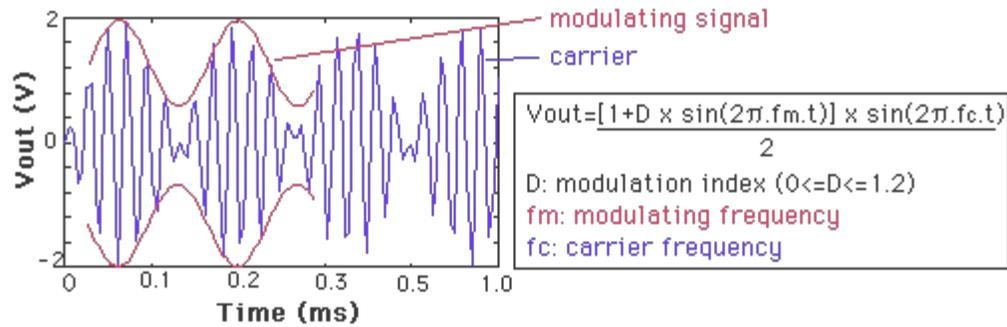

Figure 11: AM modulated sinusoid
The standard waveforms can be modified to create more complex ones which can be used in various applications. As an example, one can modulate the amplitude (AM) or frequency (FM) of the waveforms in Figure 11 for an AM modulated sinusoid. The carrier frequency amplitude is being modulated by the lower frequency - sinusoid, and is called modulating signal. The modulating signal could be any signal (For example: a speech signal or music, as the case for AM radio transmission).